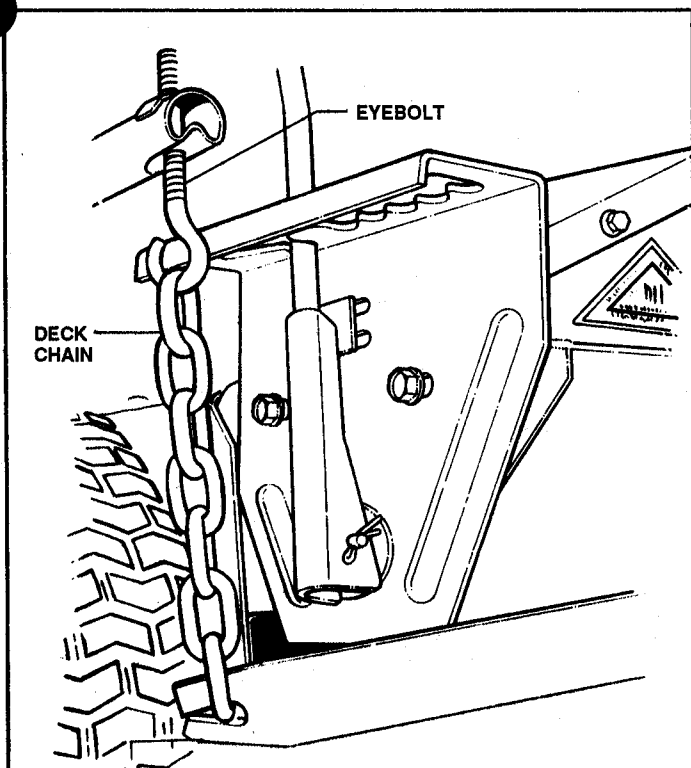

FIGURE 3.14
9. If either chain is slack, adjust eyebolt until both chains have equal tension. Recheck deck level. See Figure 3.14.
Adjust chain eyebolts the same number of turns to raise or lower rear of deck. Adjust until properly leveled. Refer to Figure 3.14.